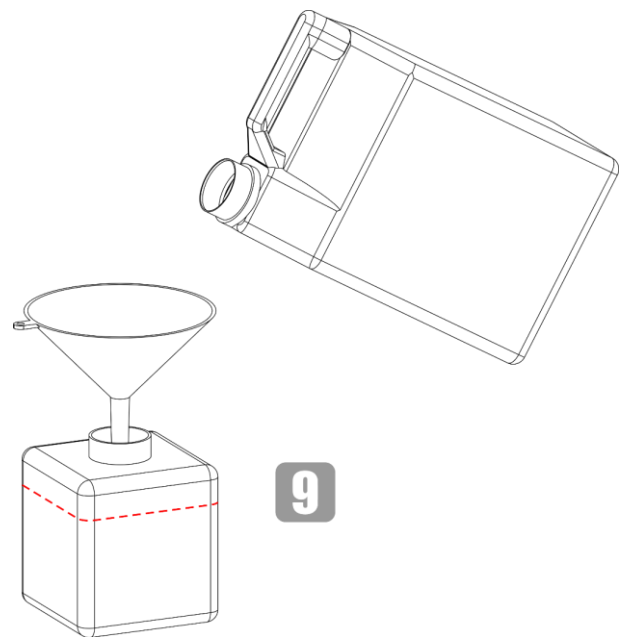

Fig. 16
- 09) Use a funnel to pour the fog fluid into the tank, as shown in Fig. 16.
- 10) Fill the fluid container with the recommended fog fluid (Max. Fluid Tank Capacity 2,3 L). Make sure that you do not overfill. See Fig. 16 for more information.